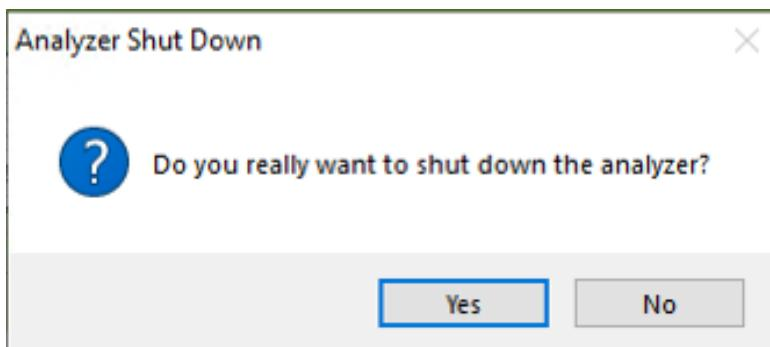

Figure 77: Shutdown Confirmation Pop-Up Dialog
2. A window will pop-up (Figure 77) prompting the user to confirm the shutdown. Once confirmed, the analyzer software and hardware will turn off.